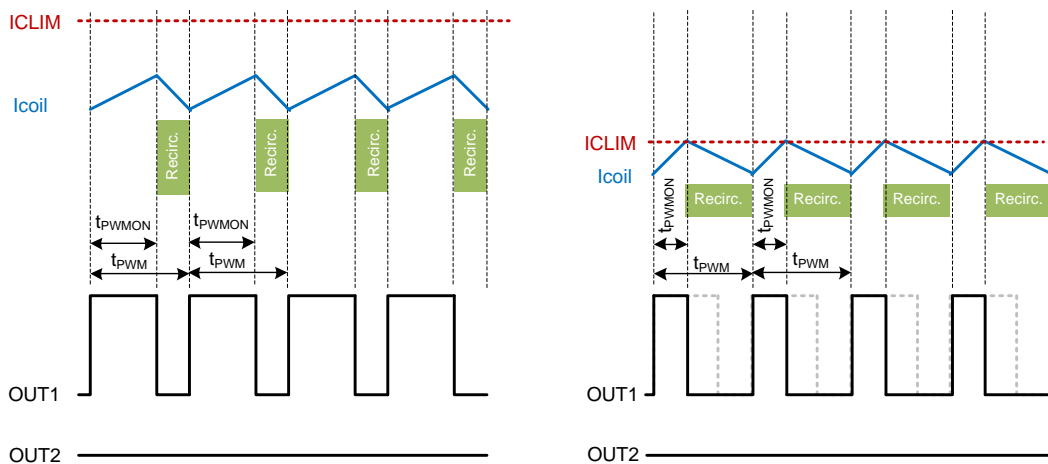

Figure 6 ICLIM current limiting
The high side FET is switched OFF, and the Low Side FET is switched on, to recirculate the current. The motor control is not interrupted. The examples in Figure 6 show the condition with PWM applied on OUT1, and OUT2 switched low.
- **CASE 1. Icoil (DCout\_Calc) < ICLIM (left picture in Figure 6)**
- **CASE 2. Icoil(DCout\_Calc) > ICLIM (middle picture in Figure 6)**